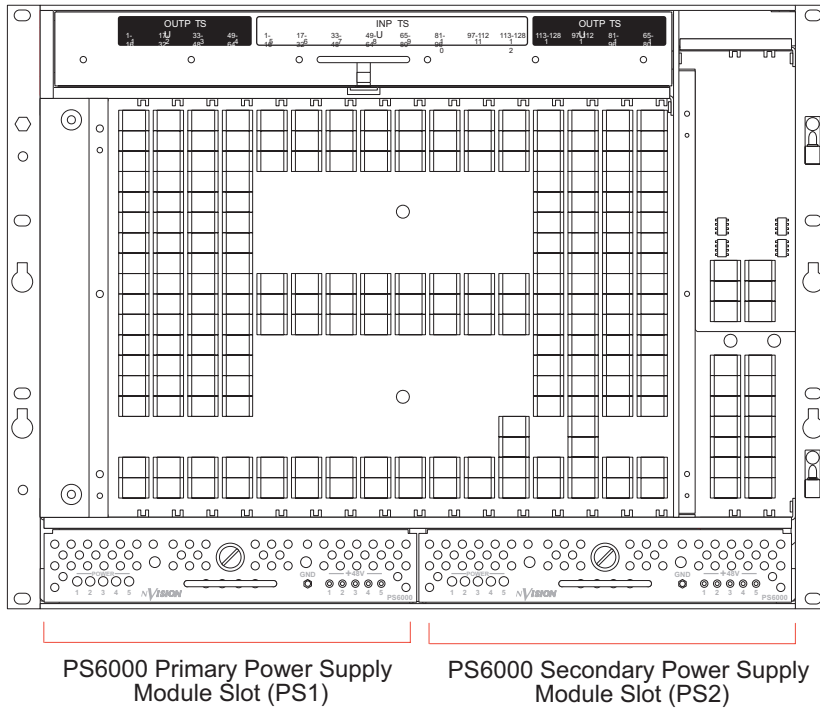

Figure 3-1. PS6000 Power Supply Module Slot - No Cards Installed (Front View)
- 2 If not already removed, facing the front of the router, remove all PS6000 power supply modules, as shown in Figure 3-1.
- a Facing the front of the NV5128, install the primary PS6000 power supply module in the *primary* power supply slot, as shown in Figure 3-1 on page 39.
- b (Optional) Facing the front of the NV5128, install the redundant PS6000 power supply module in the secondary power supply slot, as shown in Figure 3-1 on page 39.